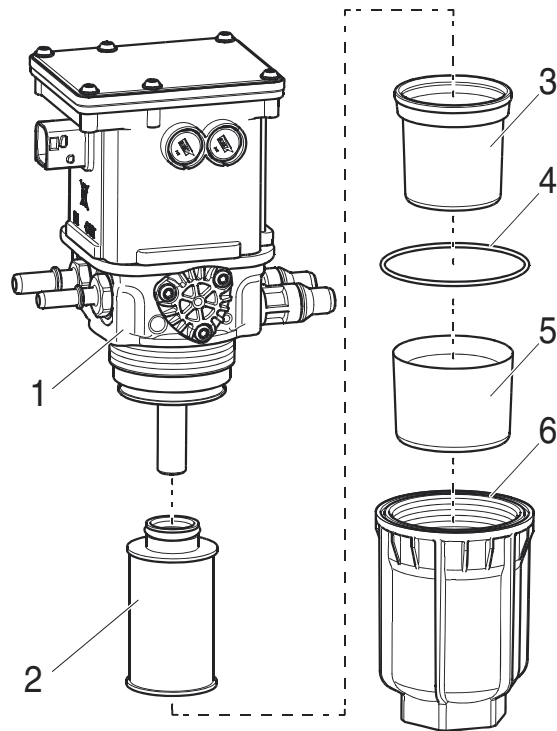

Figure 5-5-15 DEF Pump Filter
6. Remove the sealing diaphragm. See Figure 5-5-15.